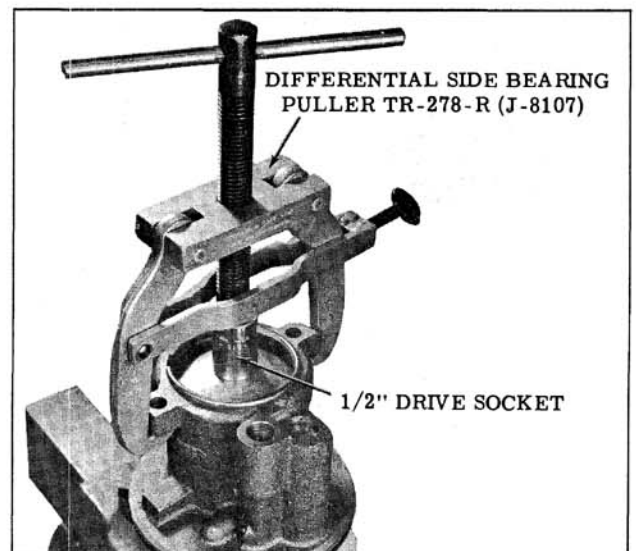

Fig. 8-33 Installing End Cover
- b. Install Differential Side Bearing Puller (J-8107), along with a 1/2" drive socket to press the end cover down beyond the retaining ring groove. (Fig. 8-33)